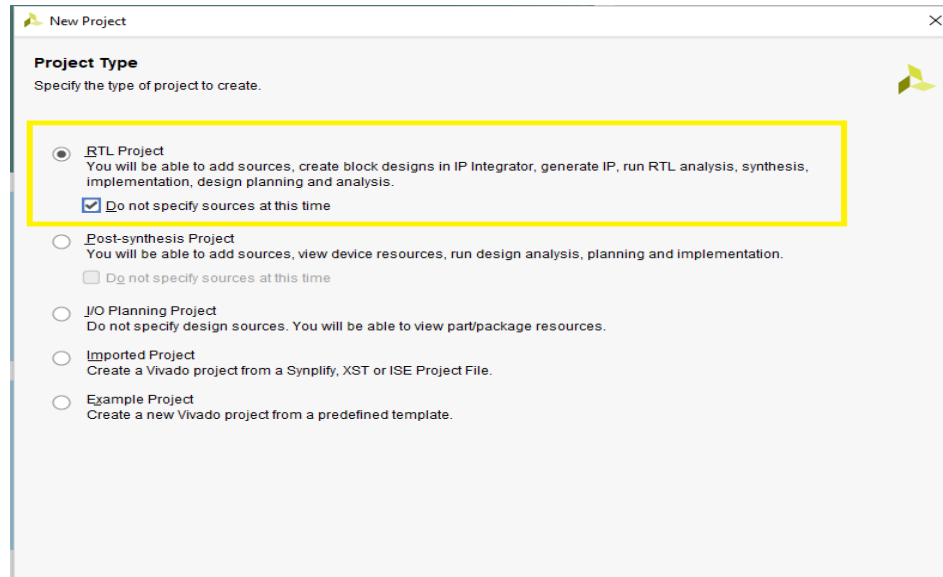

Fig. 3.3: Project Type Dialog Box
3. A *Project Type* dialog box will appear. Select *RTL Project* and check the *Do not specify sources at the time* box. Click *Next* to continue. (Fig. 3.3.)